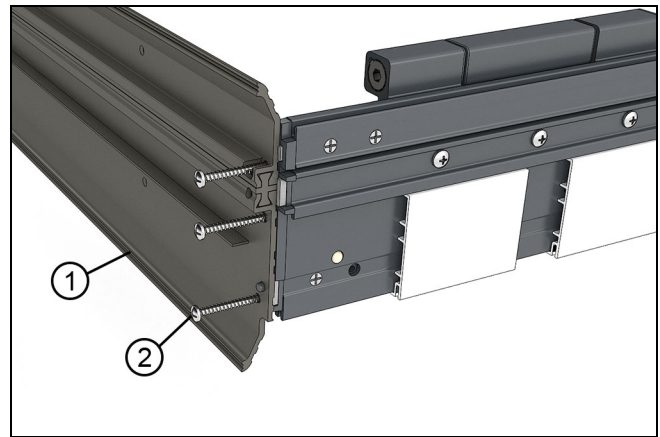

Figure 26
**12. Saddle Sills:** Attach the saddle sill to the jambs with three #8 x 1 3/4" pan head screws per corner. See Figure 26.